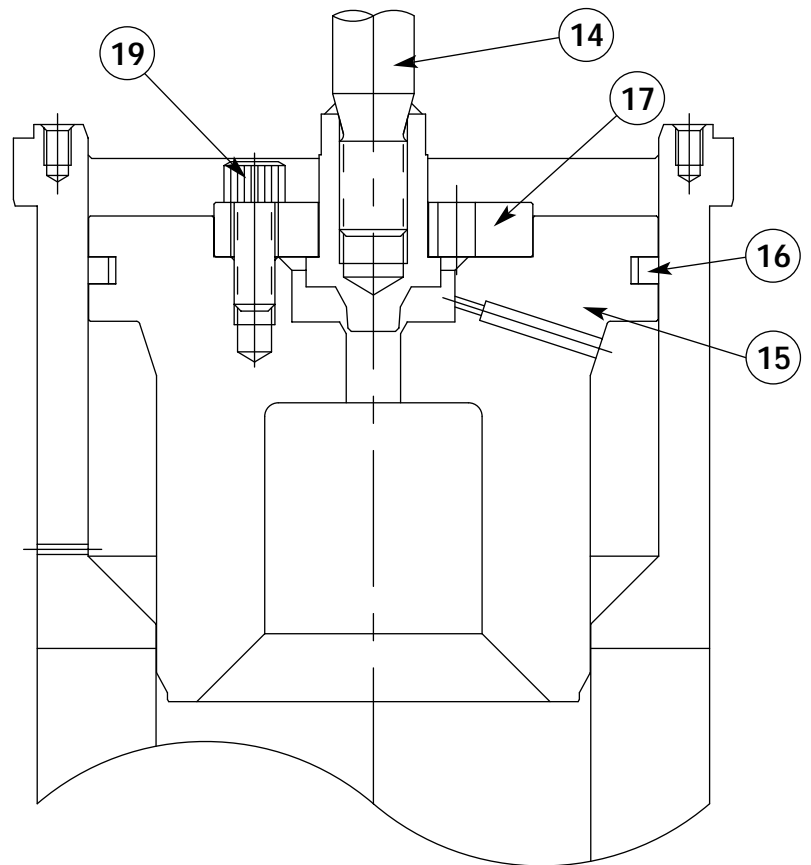
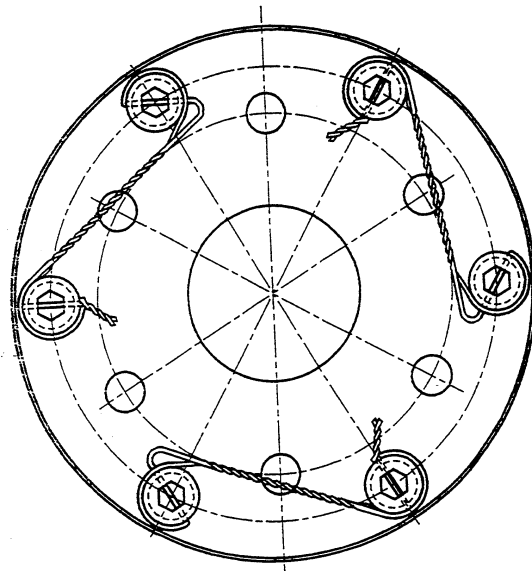

FIG. 4F
FIG. 7
- 4b. (HI-GAIN) T² VALVE PLUG (See Fig. 4F & 7) - Install piston ring, carefully expanding ring over the main plug and into ring groove. The 4" , 6" & 8" valves use a pressure balanced piston ring which must be oriented as shown in Figure 8A Assemble stem and pilot plug assembly to main plug with retainer plate and socket head capscrews. For the 2" valve, tighten capscrews to 15 ft-lbs. For 3" and larger valves, tighten capscrews to 25 ft-lbs. Tie wire capscrews as shown on Fig. 7.